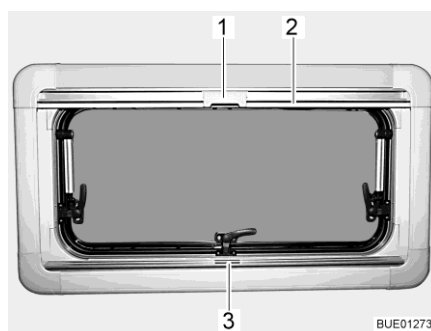
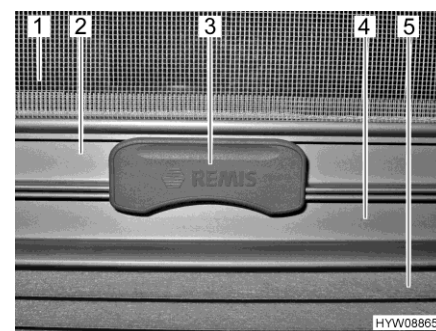

Fig. 17 Hinged window
Fig. 18 Catch
Roman shade The Roman shade (Fig. 18,5) is located in the lower blind box.
Closing: ■ Seize the Roman shade by the centre of the holding bar (Fig. 17,3 and Fig. 18,4), pull it from the bottom to the top and release it at the desired height. The Roman shade will stay at this height.
Insect screen The insect screen (Fig. 18,1) is located in the upper blind box.
Closing: ■ Pull the insect screen down by the holding bar (Fig. 17,2 and Fig. 18,2), until it touches the holding bar of the Roman shade (Fig. 18,4).
■ Clip the catch (Fig. 17,1 and Fig. 18,3) on the insect screen into the holding bar of the Roman shade. When the catch is locked, the Roman shade and the insect screen can be adjusted together.
Opening: ■ Push the catch (Fig. 18,3) on the insect screen upward.
■ Move the insect screen back slowly on the holding bar (Fig. 17,2).